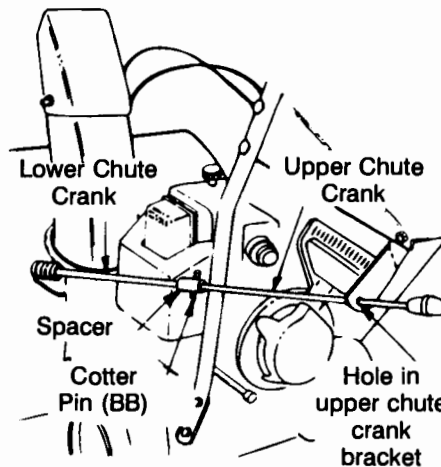

FIGURE 9
- Insert upper chute crank through hole in upper chute crank bracket then into spacer. Secure with cotter pin (BB) (1/2" diameter) as shown in Figure 9.